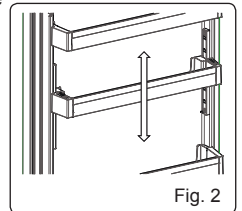

Fig. 2
Position door shelf the height you need by moving up and down. After you get the position that you want the door shelf, release the buttons on the side of the door shelf (Fig.2) Before releasing the door shelf, move up down and make sure the door shelf is fixed.
2. Open the light cover towards arrow when top hooks pull out from housing. (Fig. 2)
2. Press the hooks on light cover. (Fig. 2)